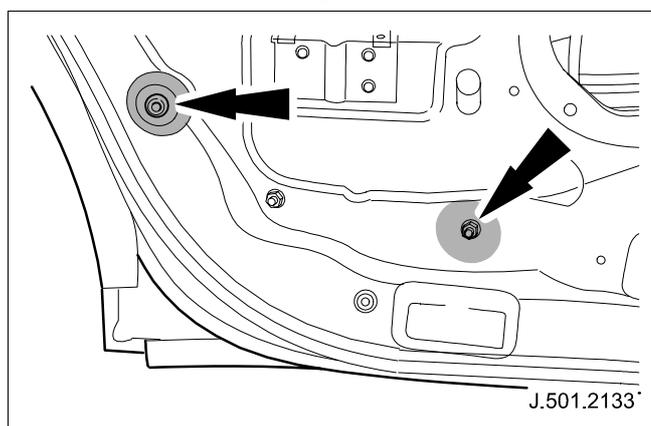

Fig. 11
- 3 Door casing fir tree clip and fixing nut. (See Fig. 11)